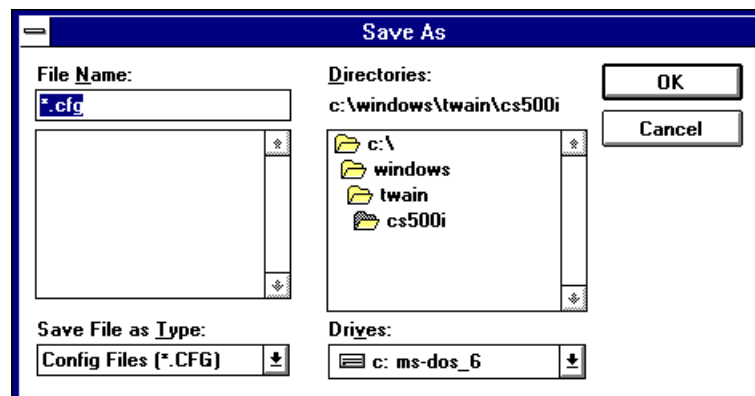

Figure 4-35. Store Dialog Box
8. Choose the Store button to display the Store dialog box (Figure 4-35).